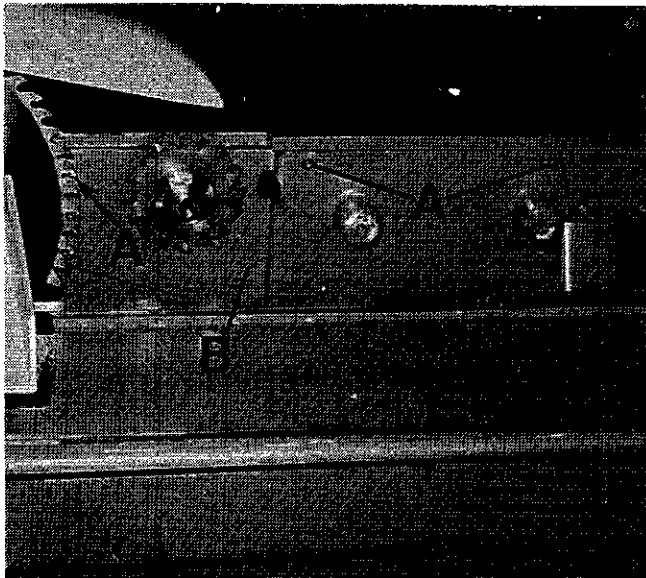

FIG. 39.
7. Remove the 3-M6 button head screws "A", FIG.39, and rear guard "B".